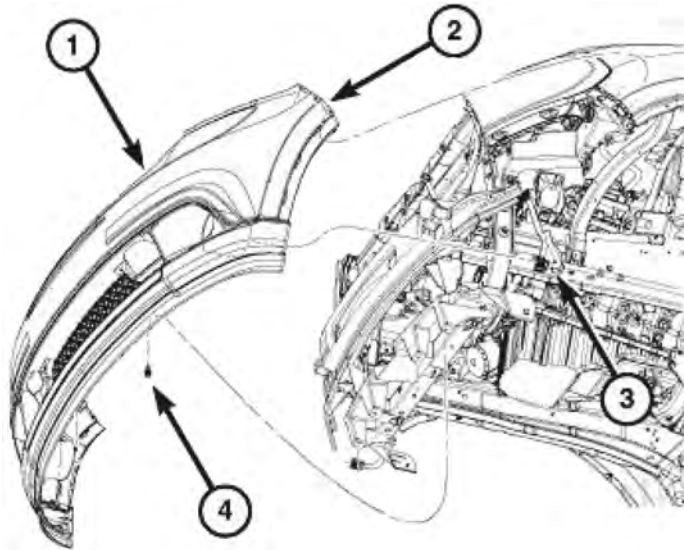

Figure 2
- C. Remove the four lower retainers (4). (Fig. 2)
- Release the integral latches at the wheel well openings (2) and the radiator grille assembly.
- Disconnect the fog lamp electrical connectors (3), if equipped.